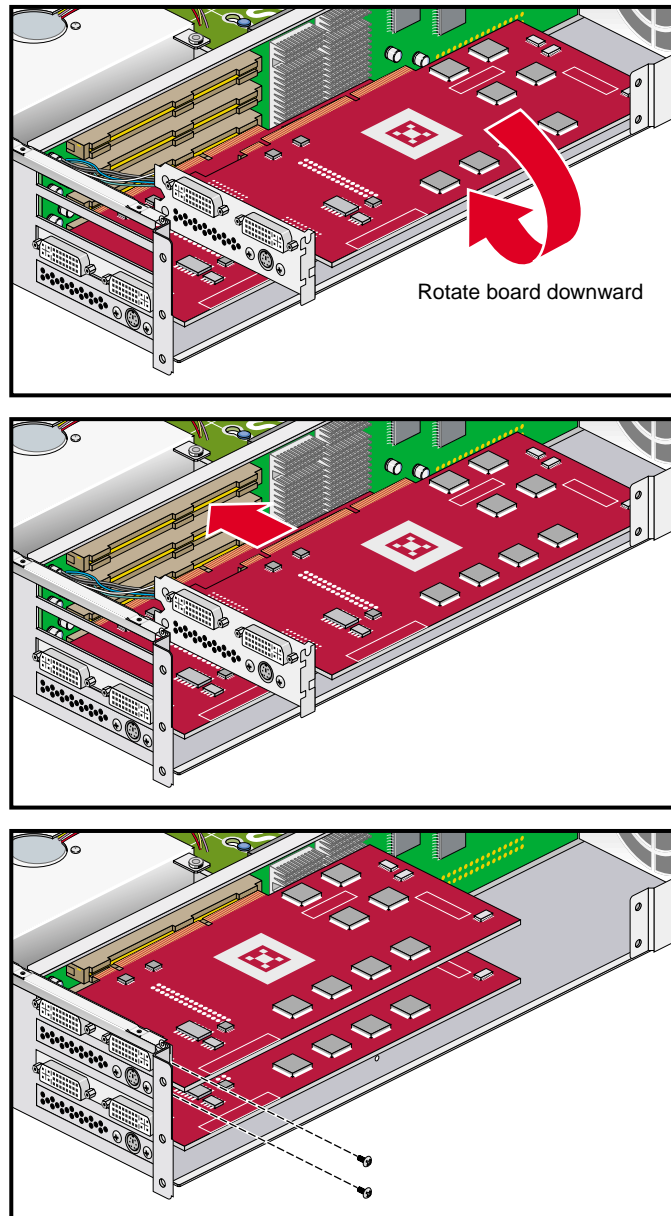

Figure 3-19 Remove XG2N Graphics Board Assembly
10. Undo and remove the two screws that hold the card to the backpanel, as shown in Figure 3-19.